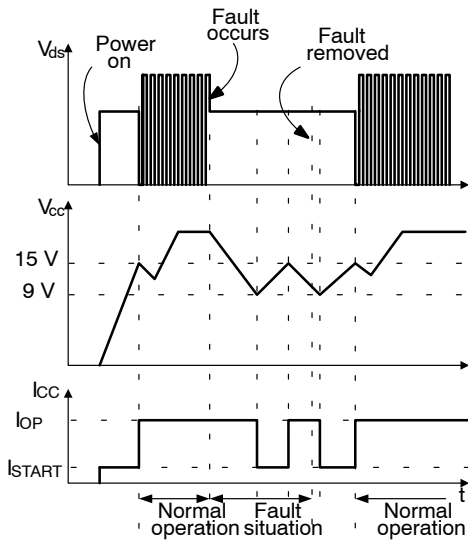

Figure 33. Auto Restart Mode Protection
- **Auto-Restart Mode Protection:** Once the fault condition is detected, switching is terminated and the SENSEFET remains off. This causes  $V_{CC}$  to fall. When  $V_{CC}$  falls to the under voltage lockout (UVLO) stop voltage of 9 V, the protection is reset and the FSCQ series consumes only startup current (25 mA). Then, the  $V_{CC}$  capacitor is charged up, since the current supplied through the startup resistor is larger than the current that the FPS consumes. When  $V_{CC}$  reaches the start voltage of 15 V, the FSCQ series resumes its normal operation. If the fault condition is not removed, the SENSEFET remains off and  $V_{CC}$  drops to stop voltage again. In this manner, the auto-restart can alternately enable and disable the switching of the power SENSEFET until the fault condition is eliminated (see Figure 33).